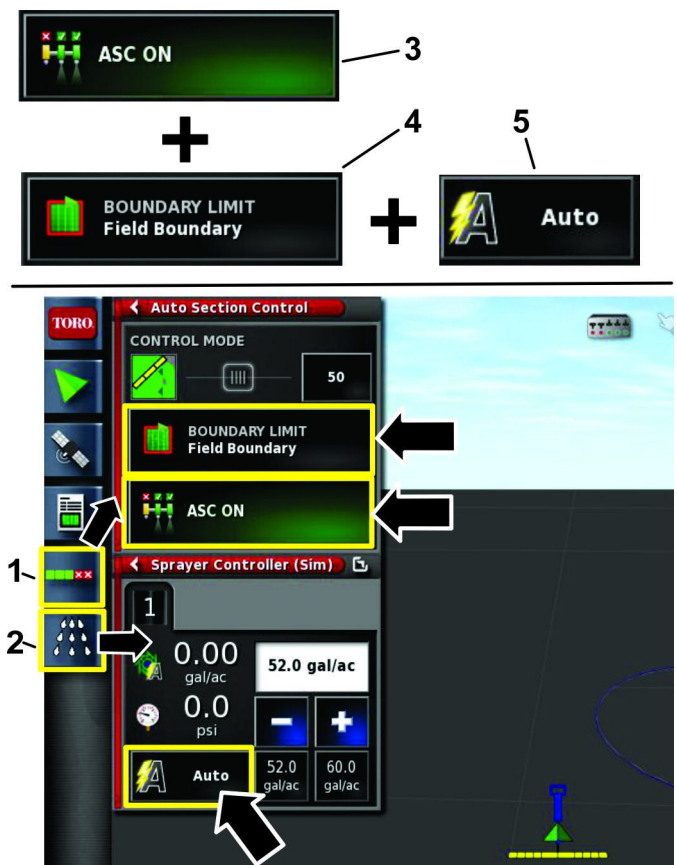

Figure 111
- Press the AUTO SECTION CONTROL CONFIGURATION icon (ASC icon) and the SPRAYER CONTROLLER icon to open these screens (Figure 111).
- Press the ASC icon to the ON position, set the boundary limit to the FIELD BOUNDARY position, and set the rate control to the AUTO position (Figure 111).